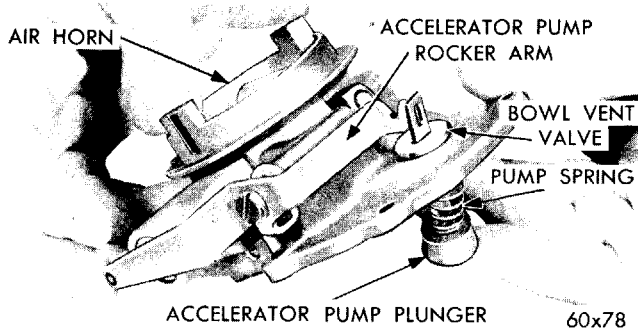

Fig. 4 — Removing or Installing Accelerator Pump Plunger
- (6) Disengage the accelerator pump plunger from the rocker arm, by pushing up on the bottom of plunger and sliding plunger shaft off hook, as shown in Figure 4. Slide plunger out of airhorn and remove bowl vent valve, spring seat and spring. If the old plunger can be used again, or if a new plunger is to be install-